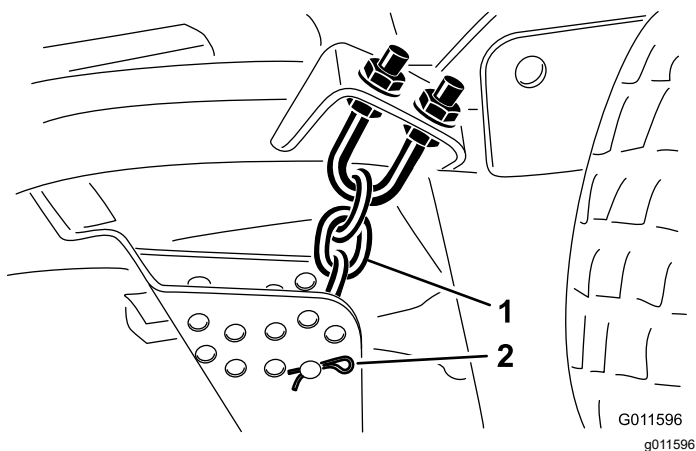

Figure 18
- Remove the hairpin cotter and clevis pin securing the height-of-cut chains to the rear of the cutting unit (Figure 18).